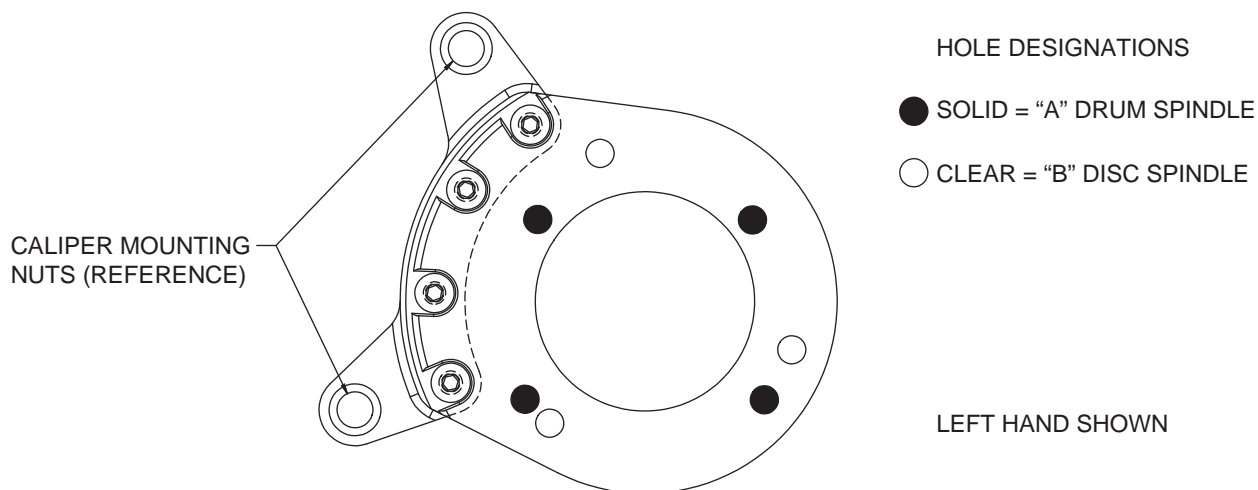
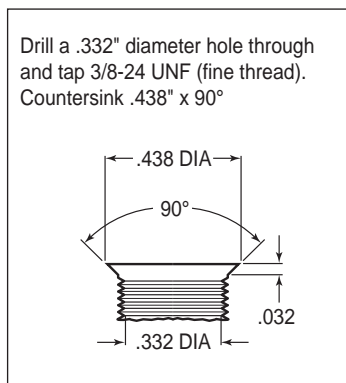
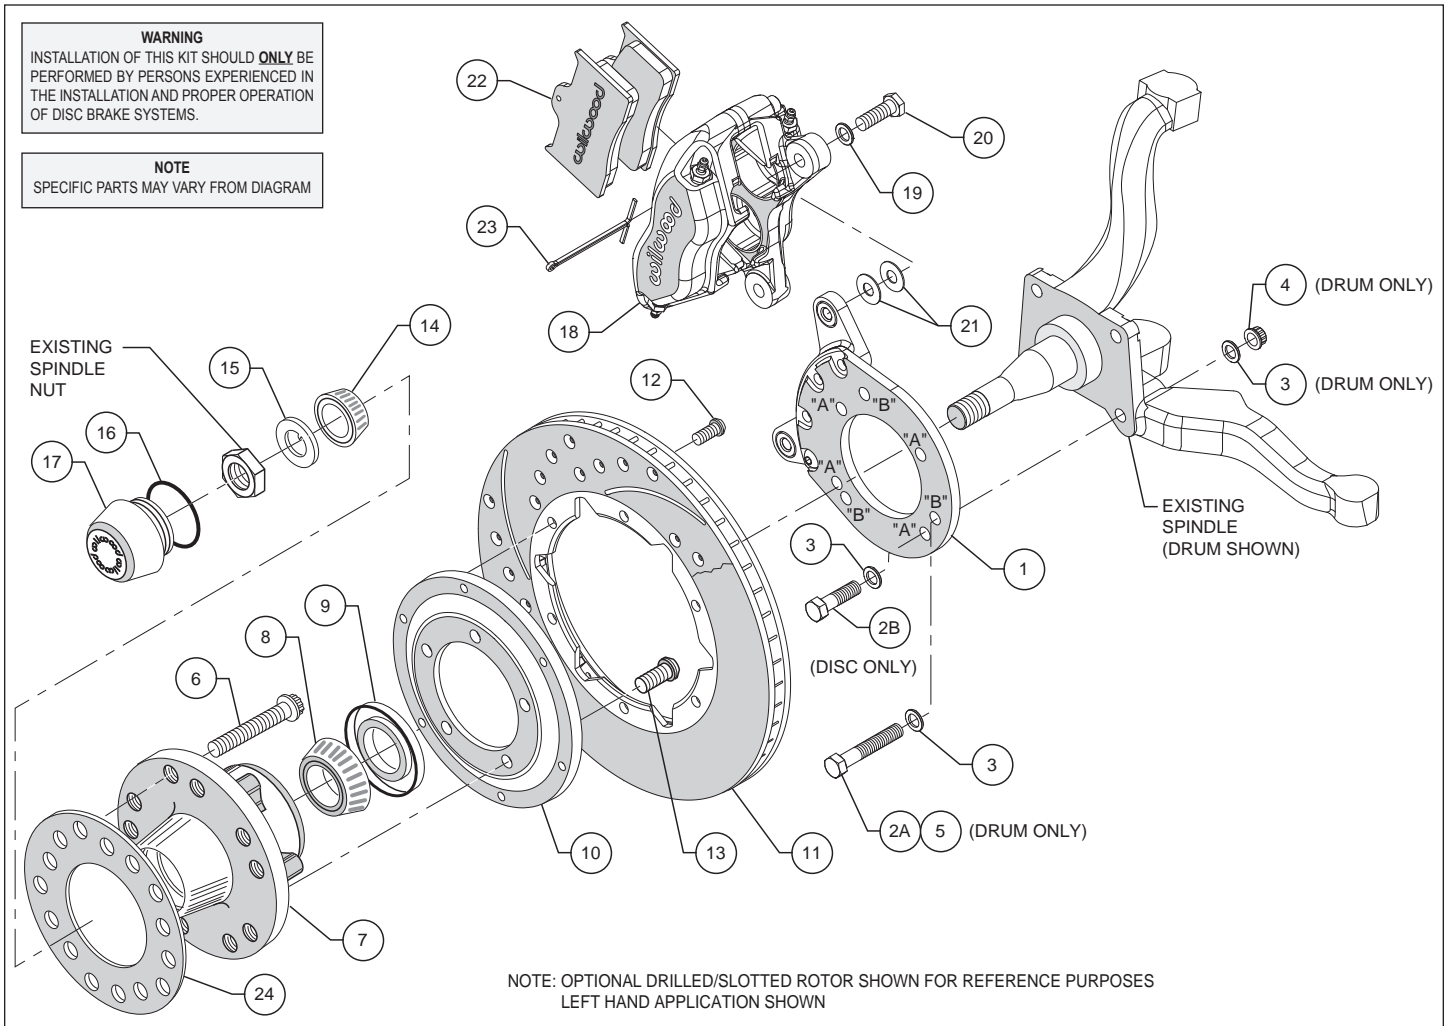
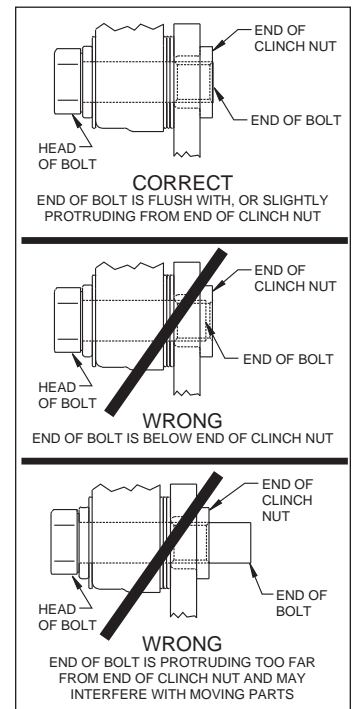

Figure 1. Wilwood Caliper Mounting Bracket
Figure 2. Drill and Tap Detail
Figure 4. Typical Installation Configuration
Figure 5. Clinch Nut Engagement Diagram
This kit has been designed for use with both the disc brake or the drum brake configuration of vehicle. The only difference is in how the Wilwood caliper mounting bracket is installed. The same bracket is used for both configurations; the disc brake version utilizes three mounting holes while the drum brake application uses four mounting holes (see Figure 1). For your convenience we have supplied bolt kits for both applications (see parts list and Figure 4 as necessary). Use the bolt kit that is applicable to your vehicle and disregard the other one.
Using the caliper mounting bracket as a template (refer to Figure 1 as necessary), locate and verify the three original holes on the spindle that need to be modified. Drill a .332" diameter hole through all three holes, then tap 3/8-24 UNF (fine thread). Countersink the holes to .438" diameter x 90°, as shown in Figure 2.
Assembly Instructions (numbers in parenthesis refer to the parts list, and Figure 2 on the preceding pages): **CAUTION:** All mounting bolts must fully engage clinch nuts. Be sure to check that all bolts are either flush or protruding through flanged side of clinch nut after shimming, Figure 5.
•**NOTE:** This kit uses the same mounting bracket (1) for both the drum and disc brake spindles. The drum version, Photo 1, uses four mounting bolts (designated "A"), while the disc version, Photo 2, uses three (designated "B"). Refer to Figures 1 and 2 for the basic installation position of the bracket and the "A" and "B" reference designations (not physically marked on the brackets).
For Drum Spindle: Align bracket, using the four "A" holes, to the face of the spindle and attach using bolts (2A and 5), washers (3), and lock nuts (4), as shown in Figure 2. Ensure that the flanged heads of the clinch nuts in the bracket are facing outboard, Photo 1. Torque nuts to 30 ft-lb.
For Disc Spindle: Align bracket, using the three “B” holes, to the face of the spindle and attach using bolts (2B) and washers (3), as shown in Figure 2. Finger tighten. Ensure that the flanged heads of the clinch nuts in the bracket are facing outboard, Photo 2. Remove bolts one at a time, apply red *Loctite*® 271 to threads, and torque to 40 ft-lb.
- Orient the rotor (11) and the rotor adapter (10) as shown in Figure 2 and Photo 5. Attach the rotor to the adapter using bolts (12). Using an alternating sequence, apply red *Loctite*® 271 to the threads, and torque to 25 ft-lb.
- Mount the adapter/rotor assembly (10/11) to the hub (7) using bolts (13), as shown in Figure 2 and Photo 6. Using an alternating sequence, apply red *Loctite*® 271 to the threads, and torque to 55 ft-lb.
- Pack the small outer bearing cone (14) with high temperature disc brake bearing grease and install into hub (7). Slide the hub/rotor assembly onto the spindle. Secure using spindle washer (15) and OEM spindle nut, Photo 7. Adjust bearings per OEM specifications. Install saved OEM nut lock (if any) and a new cotter pin (not included).
- Screw dust cap (17) into hub (7), Photo 8. Friction created by the o-ring (16) on the dust cap keeps it from unscrewing. **NOTE:** The O.D. of the existing OEM spindle washer may be larger than the I.D. of the dust cap not allowing it to seat against the hub face. Therefore, use the spindle washer (15) supplied with the kit instead of the OEM washer.
- NOTE:** Please reference the caution statement at the beginning of the assembly instructions. Mount the caliper (18) onto the caliper mounting bracket (1) using bolts (20) and washers (19), as shown in Figure 2. Initially place two .035” thick shims (21) on each bolt between the caliper and the bracket, Photo 9. Temporarily tighten the mounting bolts and view the rotor (11) through the top opening of the caliper. The rotor should be centered in the caliper, Photo 10. If not, adjust by adding or subtracting shims between the bracket and the caliper. Always use the same amount of shims on each of the two mounting bolts. **NOTE:** The end of each bolt must be flush with or slightly protruding from the head of the clinch nut, as shown in Figure 5. If necessary place spare shims between washer (19) and caliper